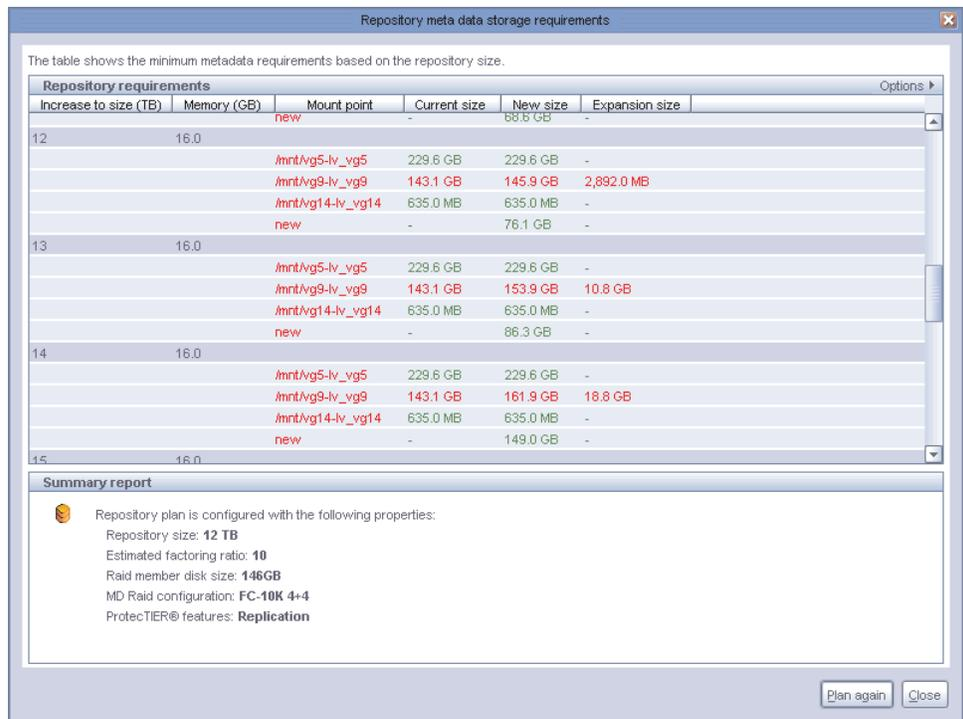

Figure 25. “Repository metadata storage requirements” window
9. Click **Ok**. The “Repository metadata storage requirements” window displays a list of file system arrangement options. See Figure 25.